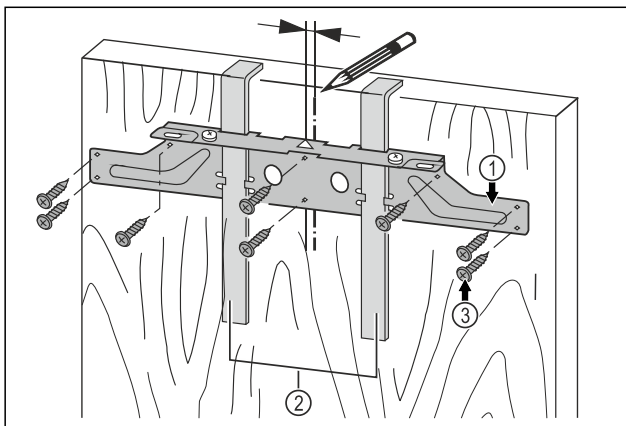

Fig. 22
- ▶ Align the fastening crossbeam Fig. 22 (1) in the center of the door.
- ▶ Left piping: Move the fastening crossbeam Fig. 22 (1) 6 mm (1/4 in) to the left.
- ▶ Right piping: Move the fastening crossbeam Fig. 22 (1) 6 mm (1/4 in) to the right.